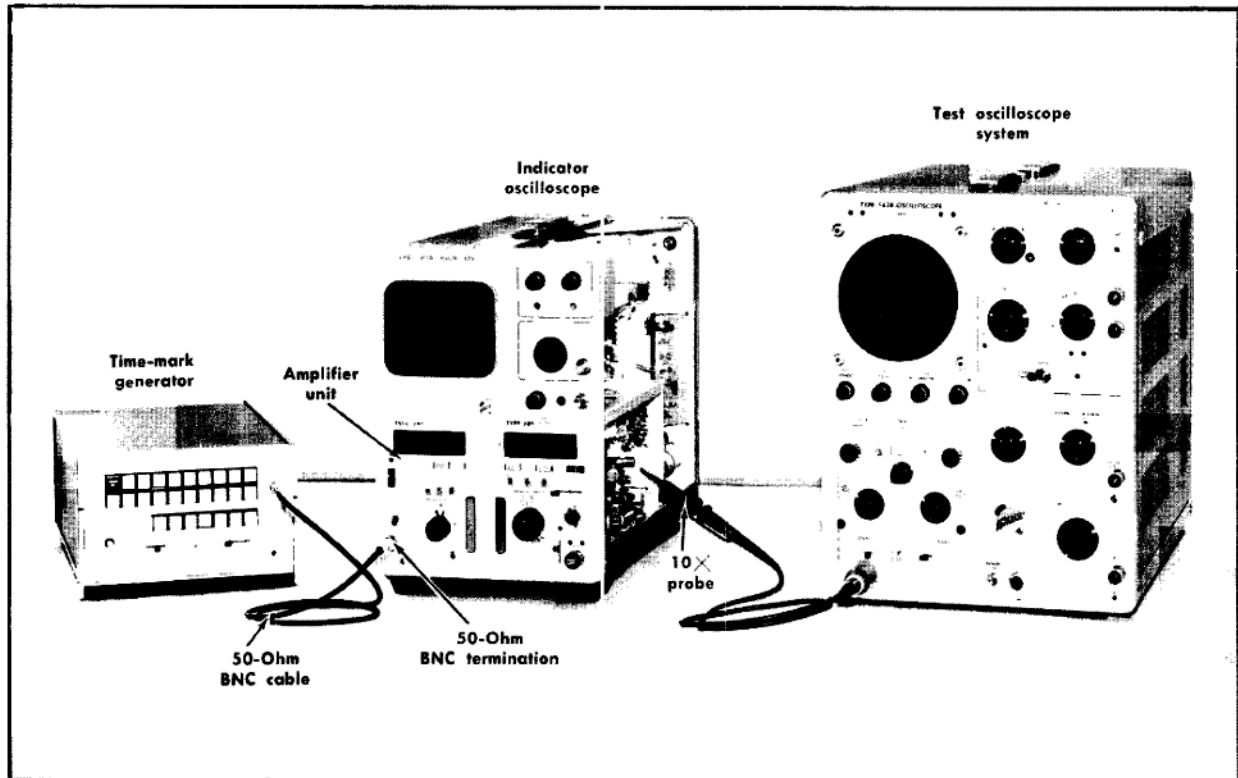

Fig. 6-17. Initial test equipment setup for steps 17—21.
- a. Test equipment setup is shown in Fig. 6-17.